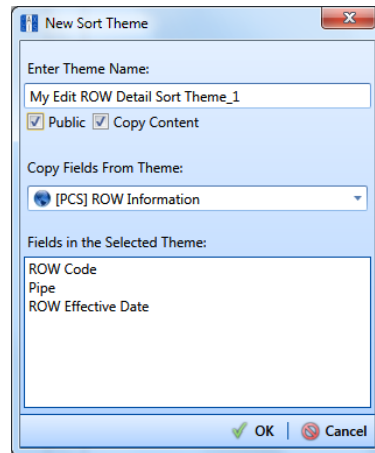

Figure 3-26. New Sort Layout
- 5 Click  **Add** to open the *New Sort Layout* dialog box (Figure 3-26).